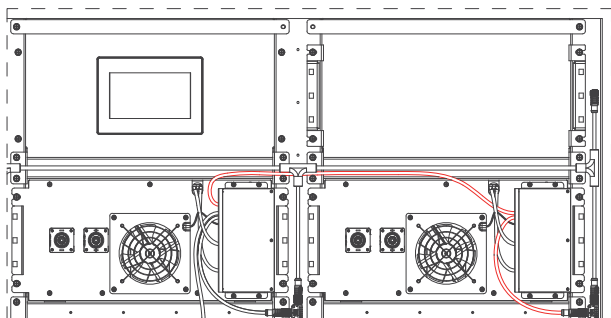

Figure 2.12
(8) Tenth and eleventh battery box BMU communication connection (Figure 2.12).